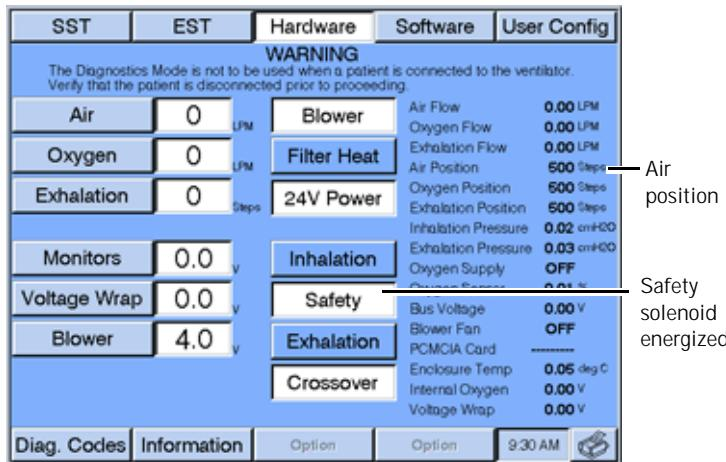

Figure 8-14: Diagnostic Mode - Hardware Screen
3. Touch **Safety** on the diagnostic mode Hardware screen to energize (white background) the safety solenoid (Figure 8-14).